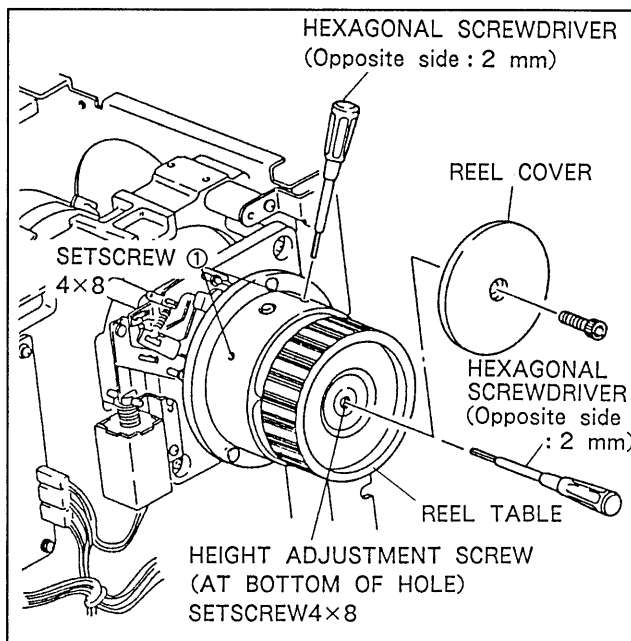

Fig. 6-6-13. Take-up Reel Table Height Adjustment
- a. Remove the tape and then remove the reel cover while referring to Fig. 6-6-13.